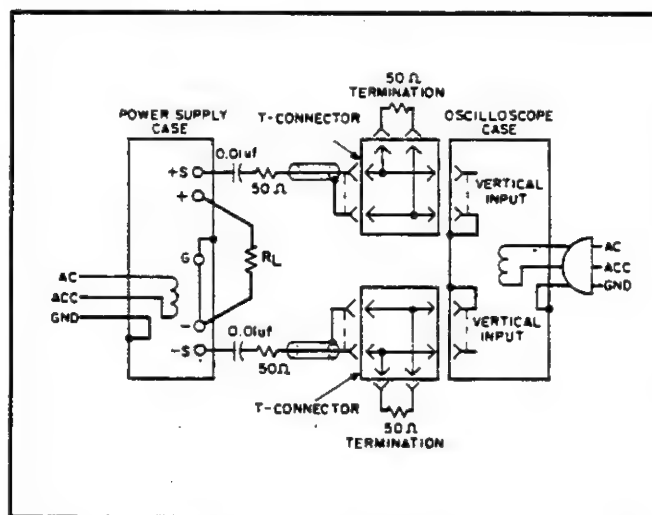

Figure 5-3. Noise Spike Measurement Test Setup
1. As shown in Figure 5-3, two coax cables must be substituted for the shielded two-wire cable.
5-26 The circuit of Figure 5-3 can also be used for the normal measurement of low frequency ripple. Simply remove the four terminating resistors and the blocking capacitors and substitute a higher gain vertical plug-in for the wide-band plug-in required for spike measurements. Notice that with these changes, Figure 5-3 becomes a two-cable version of Figure 5-2B.